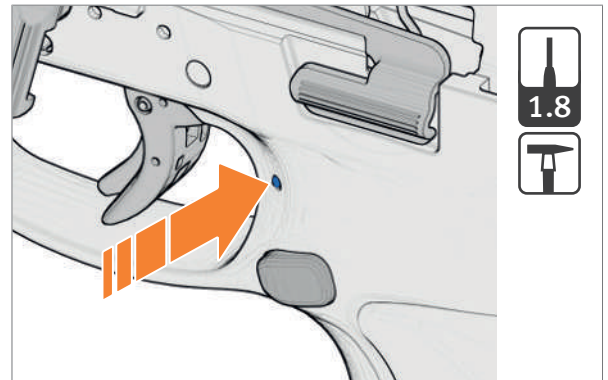

Fig. 33: Driving out clamping sleeve
2. In case of weapons with clamping sleeve for magazine catch: Drive out clamping sleeve with pin punch (Fig. 33).